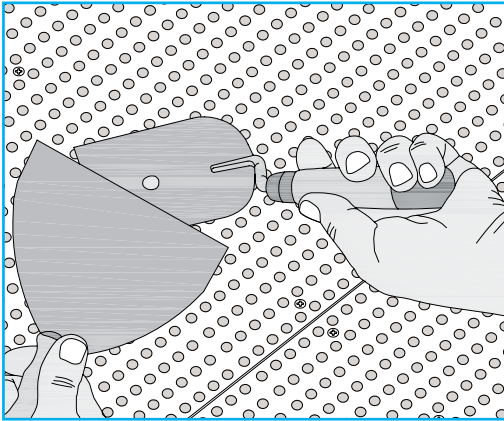

FIGURE 17 Filling of Screw Heads (if no Caps used)
- No jointing required. Fill screw heads with Mastalite or use screw caps. [Figure 17]